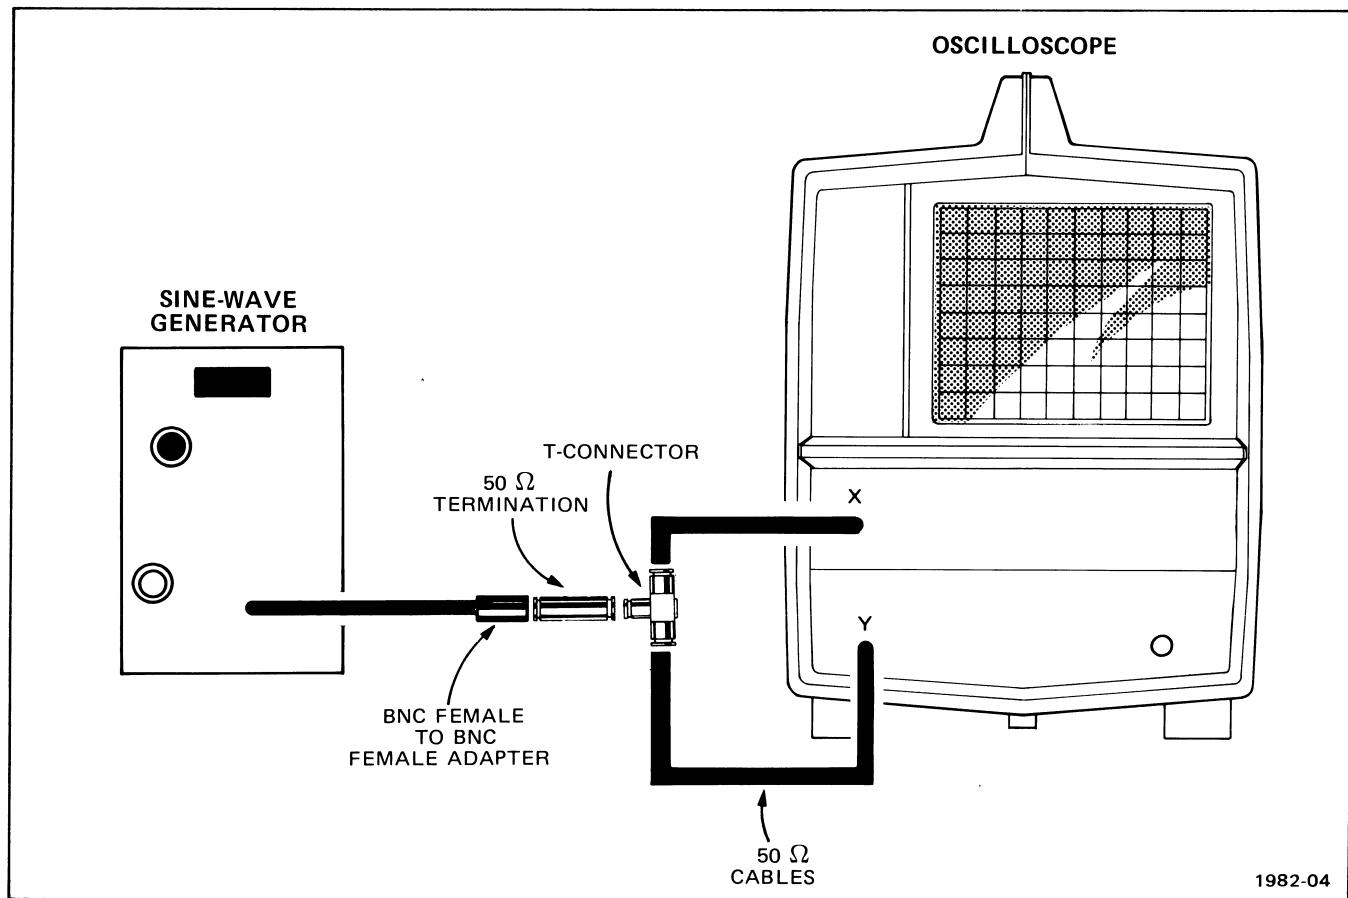

Fig. 3-3. X Gain, Triggering, and Z-axis input check test setup.
b. Connect test equipment as shown in Fig. 3-3 and set generator output amplitude to .5 V, and frequency to 50 kHz.
a. Connect test equipment as shown in Fig. 3-3.